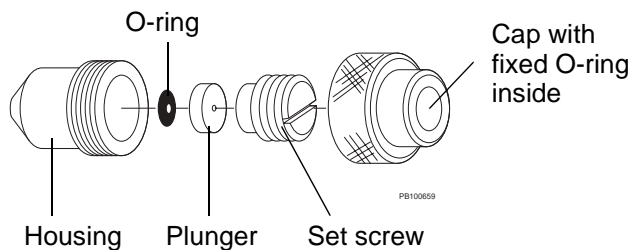

Figure 6-1 Parts of the Nanospray Head
3. Remove the cap from the head and unscrew the retaining screw (Figure 6-1 on page 73).
Figure 6-1 illustrates the parts of the nanospray head.